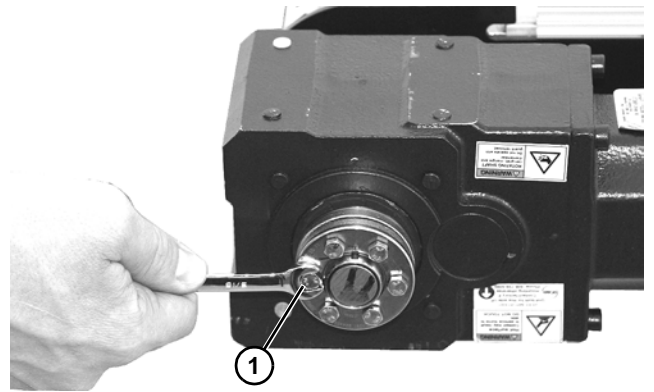

Figure 63
7. Tighten six hex head screws (**Figure 63, item 1**) to secure assembly onto shaft.